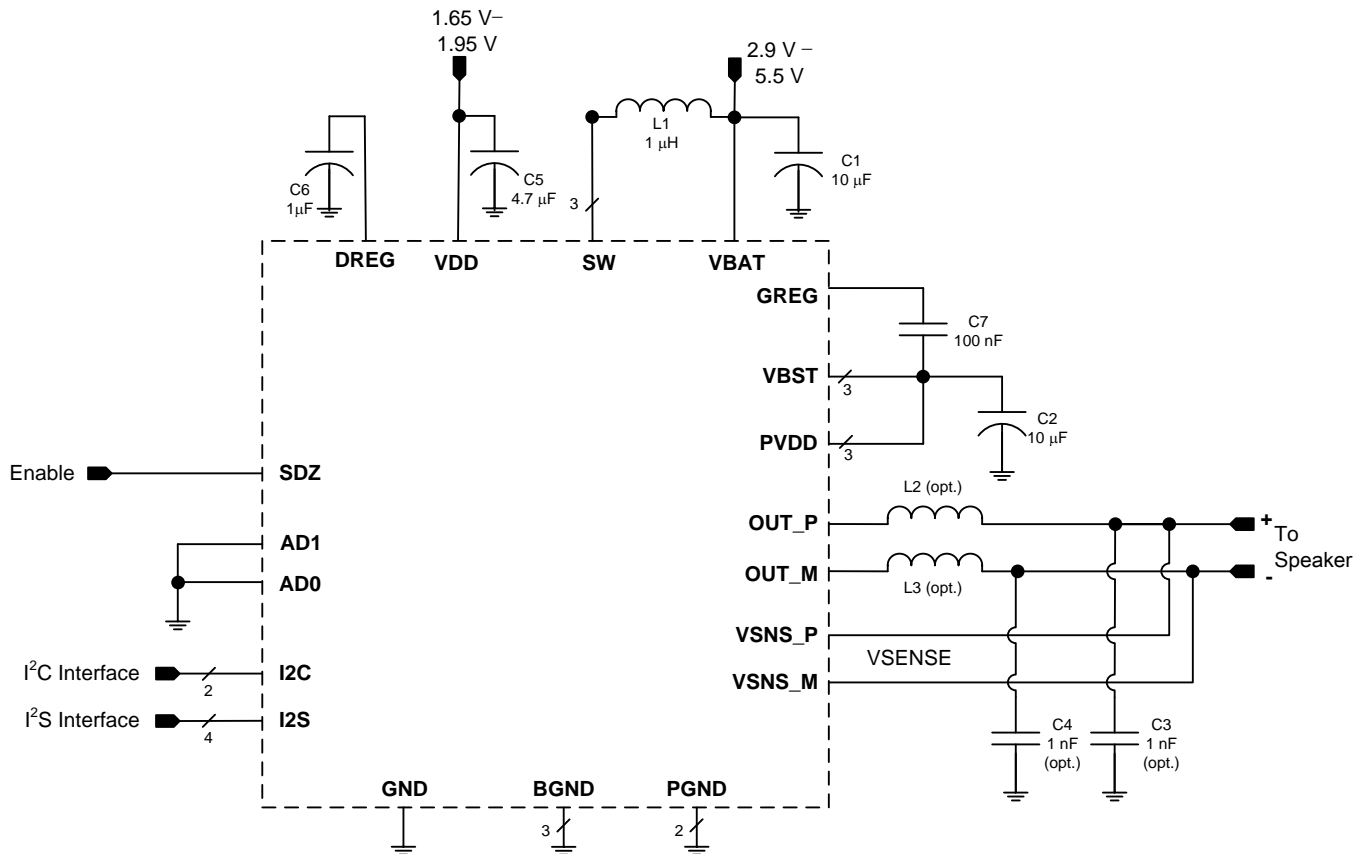

Figure 69. Typical Application - Digital Audio Input
The boost converter requires three passive devices that are labeled L1, C1 and C2 in Figure 69 and whose specifications are provided in Table 298. These specifications are based on the design of the TAS2562 and are necessary to meet the performance targets of the device. In particular, L1 should not be allowed to enter in the current saturation region. The saturation current for L1 should be > ILIM to deliver Class-D peak power.
The TAS2562 supports edge-rate control to minimize EMI, but the system designer may want to include passive devices on the Class-D output devices. These passive devices that are labeled L2, L3, C3 and C4 in Figure 69 and their recommended specifications are provided in Table 298. If C3 and C4 are used, L2 and L3 must also be installed, and C3 and C4 must be placed after L2 and L3 respectively to maintain the stability of the output stage.
The boost supply (VBAT) and associated passives need to be able to support the current requirements of the device. By default, the peak current limit of the boost is set to 4A. Refer to Table 92 for information on changing the current limit. A minimum of a 10 µF capacitor is recommended on the boost supply to quickly support changes in required current. Refer to Figure 69 for the schematic.
- Use supply decoupling capacitors as shown in Figure 69 and described in Power Supplies.